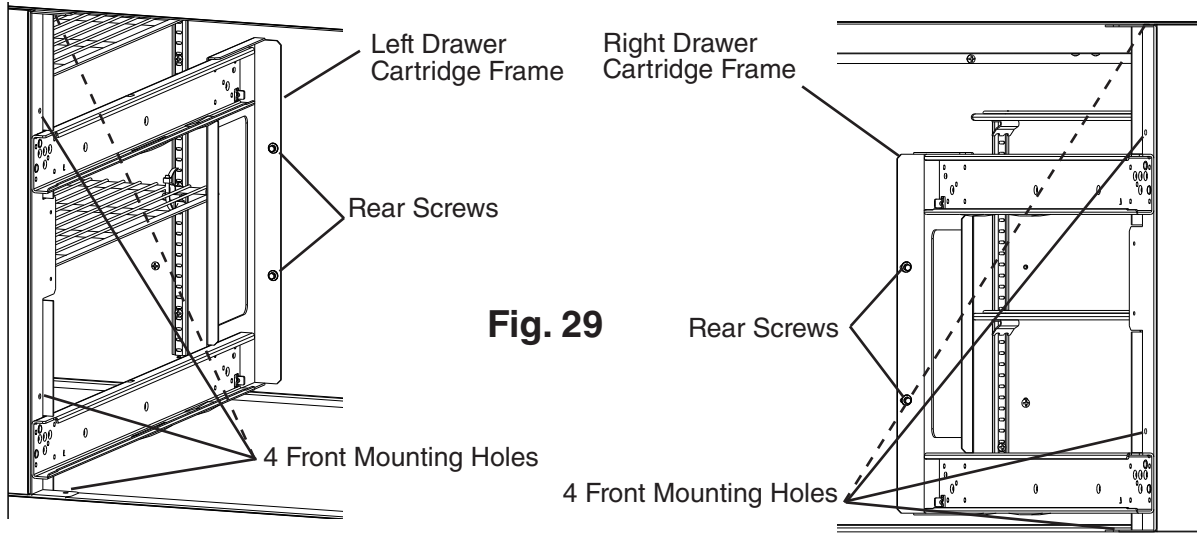

Fig. 29
- 21) Place the drawer cartridge frame removed in step 5, in place and secure to the rear panel with screws removed in step 4. See Fig. 29.
- 22) Using a 1/8" drill bit, drill pilot holes in all 4 front mounting holes. See Fig. 29.